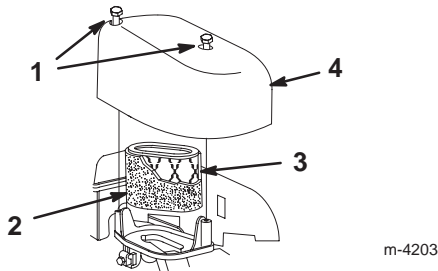

Figure 17
3. Remove the screws that secure the air filter cover (Fig. 17).
4. Remove the cover and clean it thoroughly (Fig. 17).
6. Wash the pre-cleaner with a mild detergent and water, then blot it dry (Fig. 17).
7. Remove the paper air filter and discard it (Fig. 17).
8. Insert the new paper air filter into the foam pre-cleaner (Fig. 17).
9. Install the new air filter (Fig. 17).
10. Install the cover and secure it (Fig. 17).